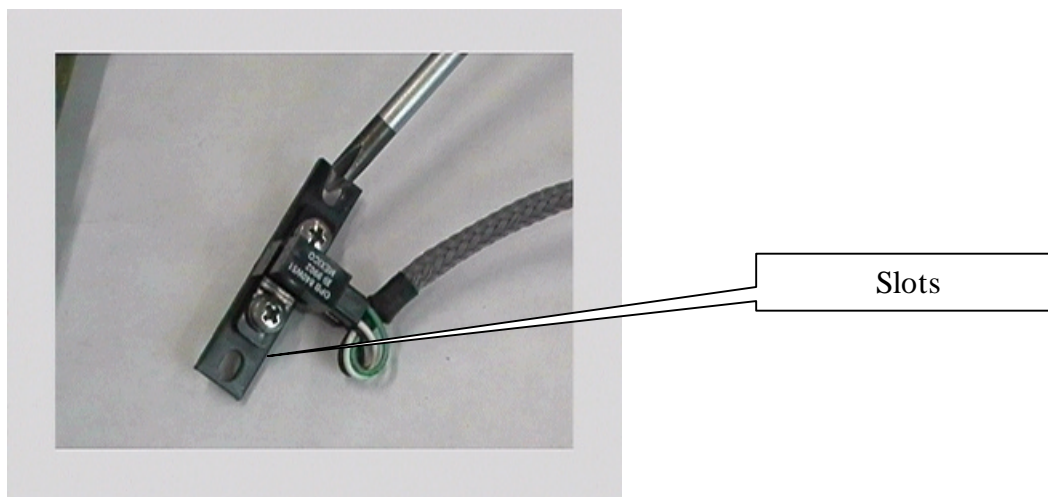

Fig. 4
**N.B.: when remounting the optic sensor, make sure to center it with respect to the slots, as shown in Fig. 4.**
**N.B.:** when remounting the opto sensor, make sure to center it with respect to the slots, as shown in Fig. 4.